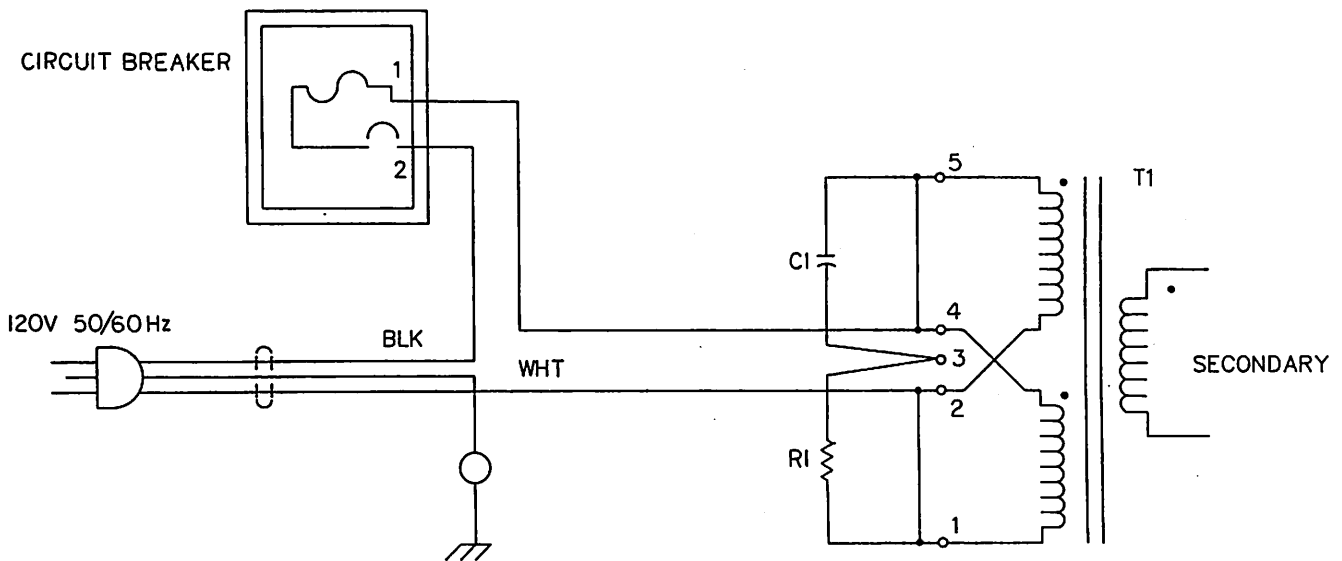

Figure 3-24. AC Power Connection
3.9.1 Transformer, Rectifier, and Filter (figure 3-24 and 3-25)
Figure 3-24 represents the AC power input circuits. The ground terminal is connected to the instrument ground. The instrument is protected by a 1 amp circuit breaker. The line voltage is stepped down to 20 VAC nominal by transformer T1. A snubber network consisting of C1 and R1 on the primary of T1 absorbs transients on the AC line.